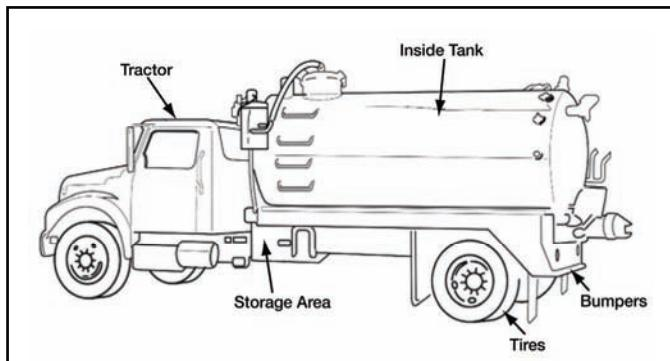

Figure 191-376-5141-8. Septic service truck
- i.** Determine if the commercial vehicle is a semivan trailer, straight-box truck, or a step van (see figure 191-376-5141-9).